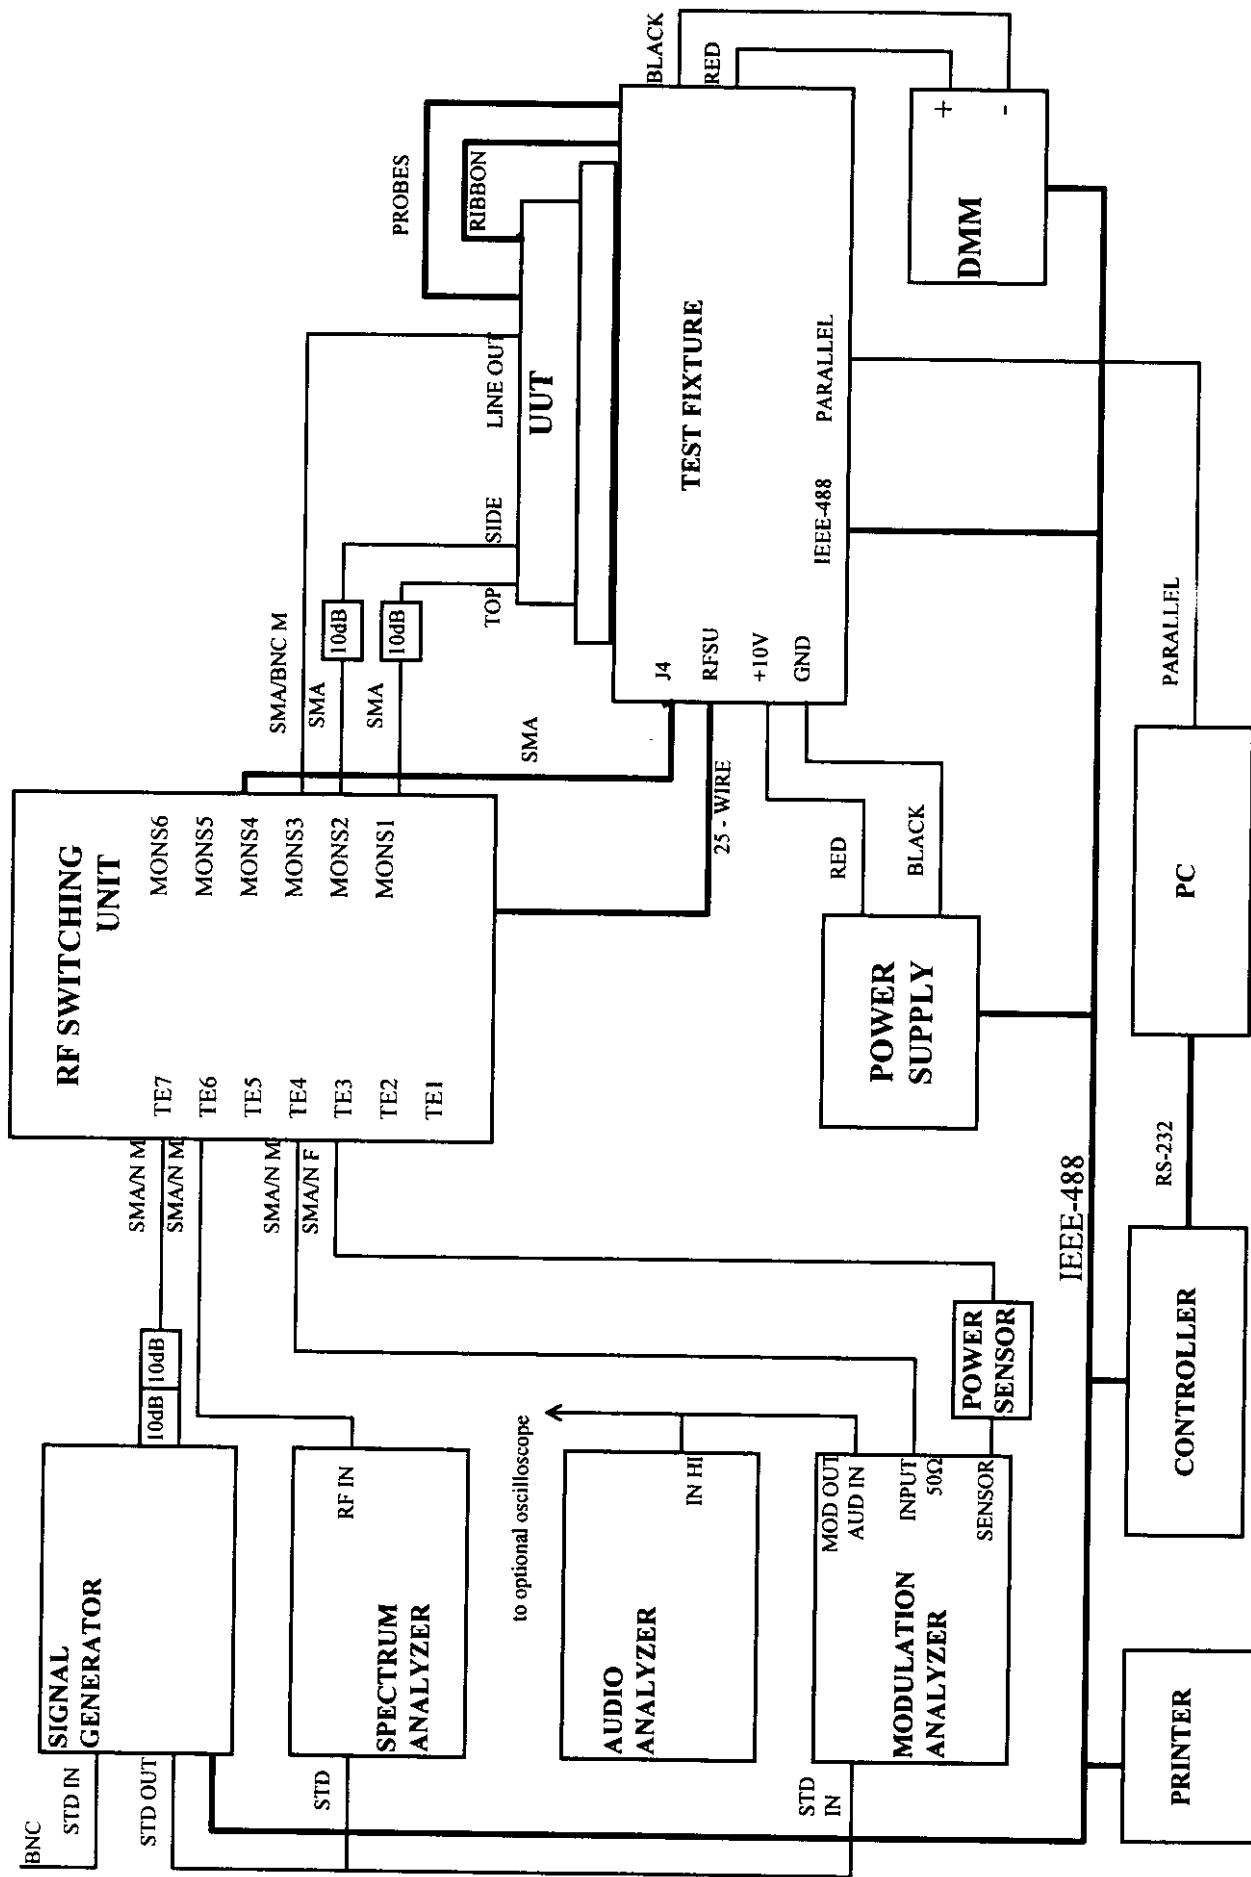

Figure 1: Test Setup
3.6.2.1 Set up the test equipment, except for UUT, as shown in Figure 1.